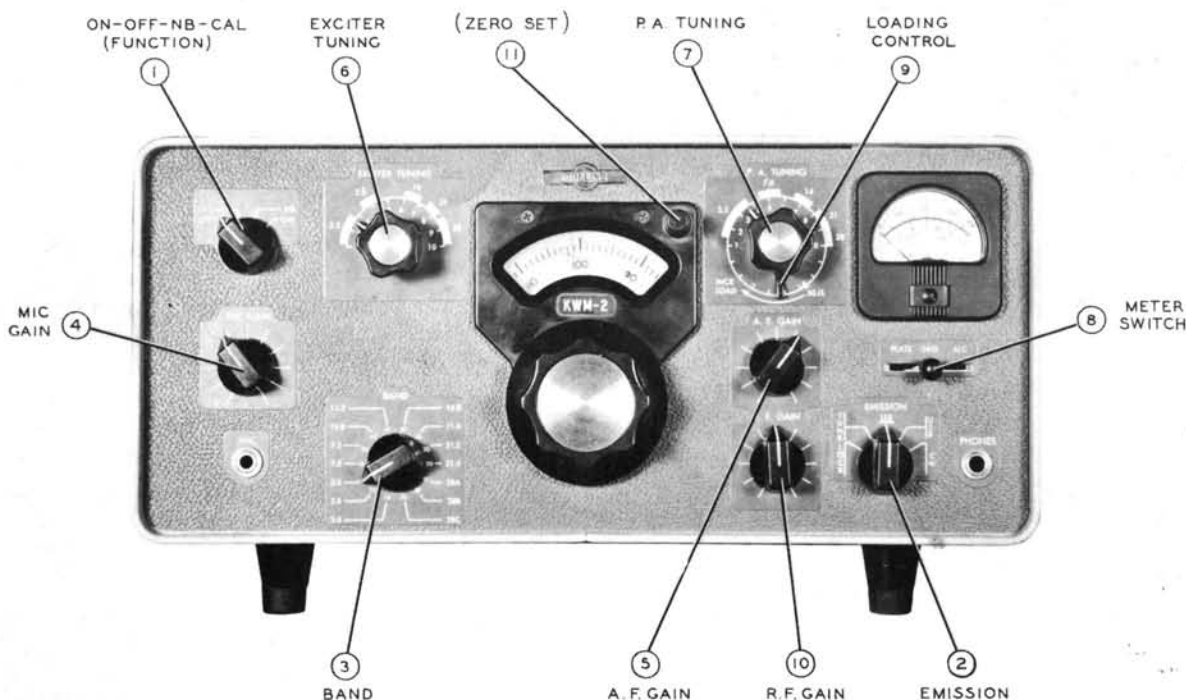

Figure 2-1. Panel Operating Controls
1.3 INITIAL CHECKS. (Refer to figure 2-1.)